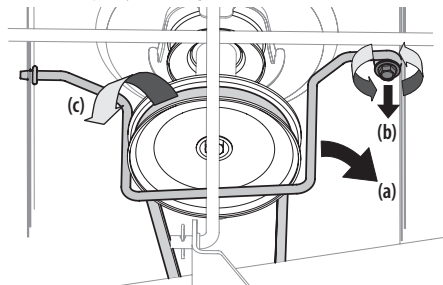

Figure 27
3. Remove the belt-keeper rod (a), from around the tractor's engine pulley, by removing the self-tapping screw (b) that secures it. See Figure 27.
4. Remove the belt (c) from around the tractor's engine pulley and idler pulley(s). See Figure 27.